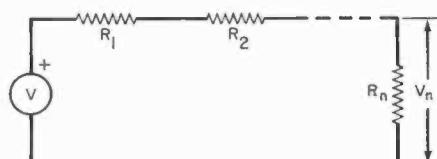

Fig. 17
**A. Voltage Divider.** An example of a voltage divider is shown in Fig. 17. Since the resistors are connected in series and the same current flows in each, the voltage,  $V_n$ , across resistor,  $R_n$ , is:  $V_n = R_n V / (R_1 + R_2 + \dots + R_n)$ . For a series circuit, the voltage